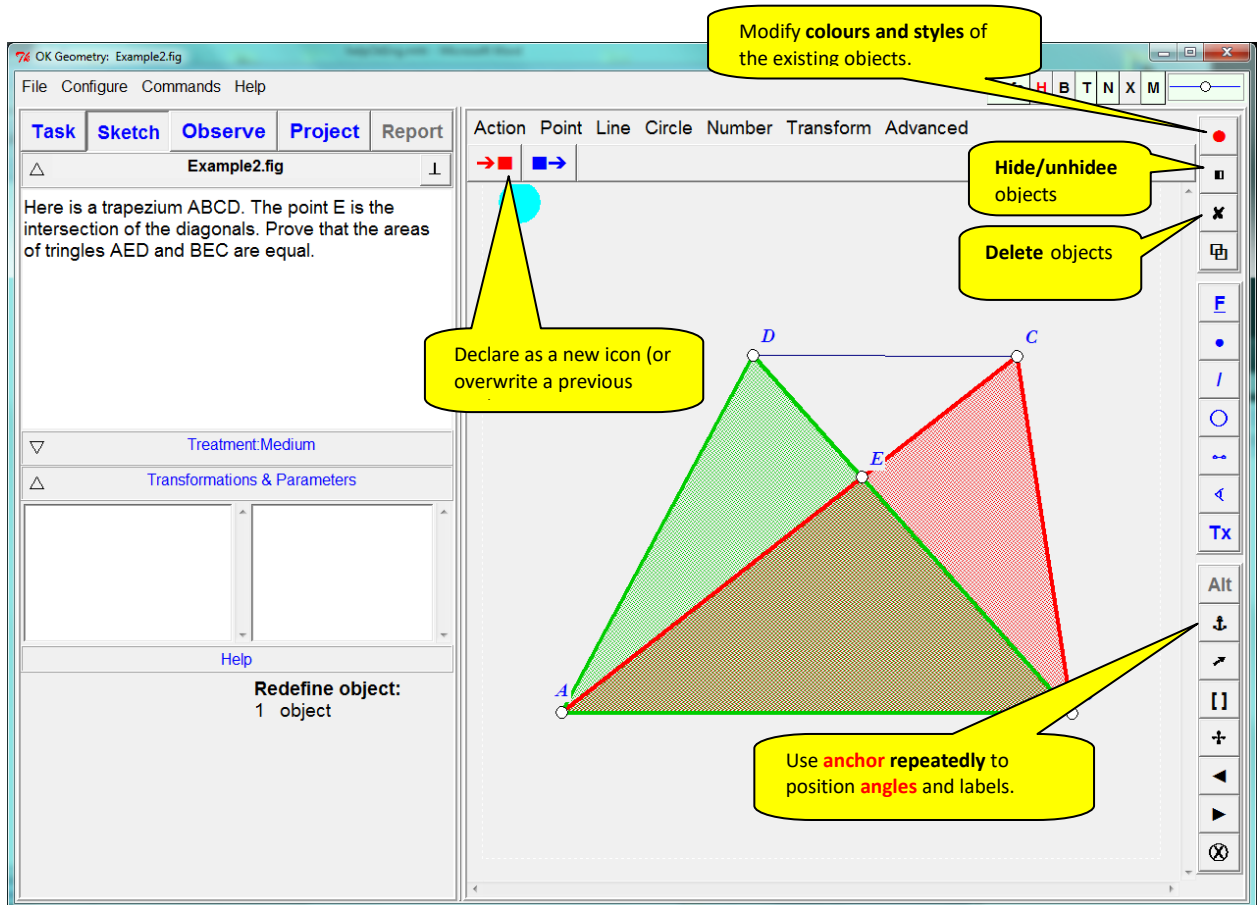
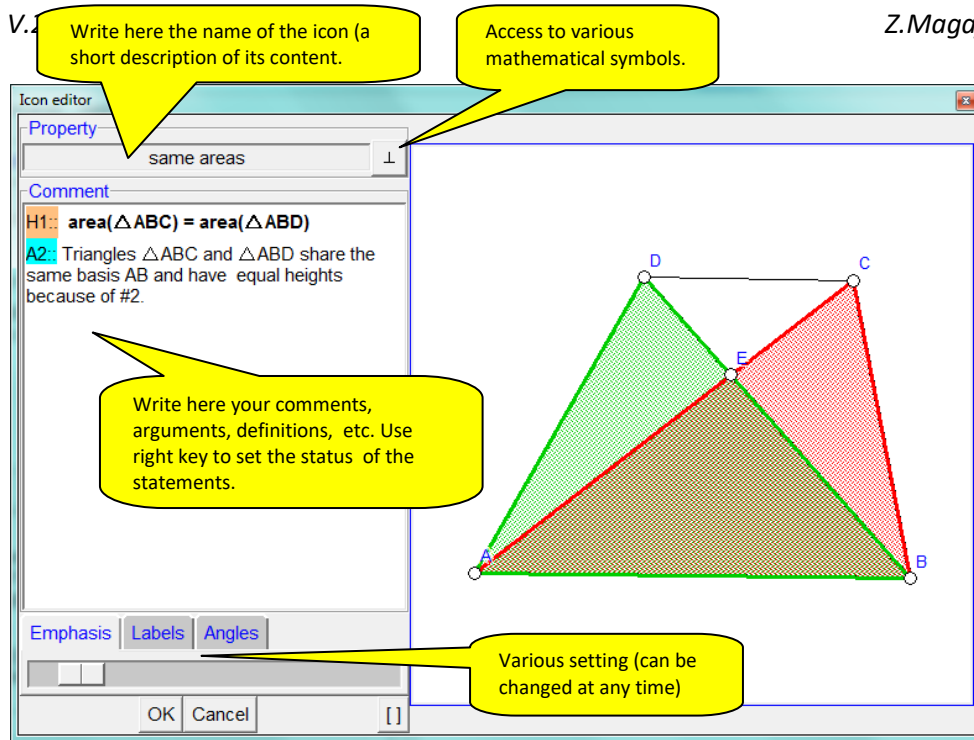
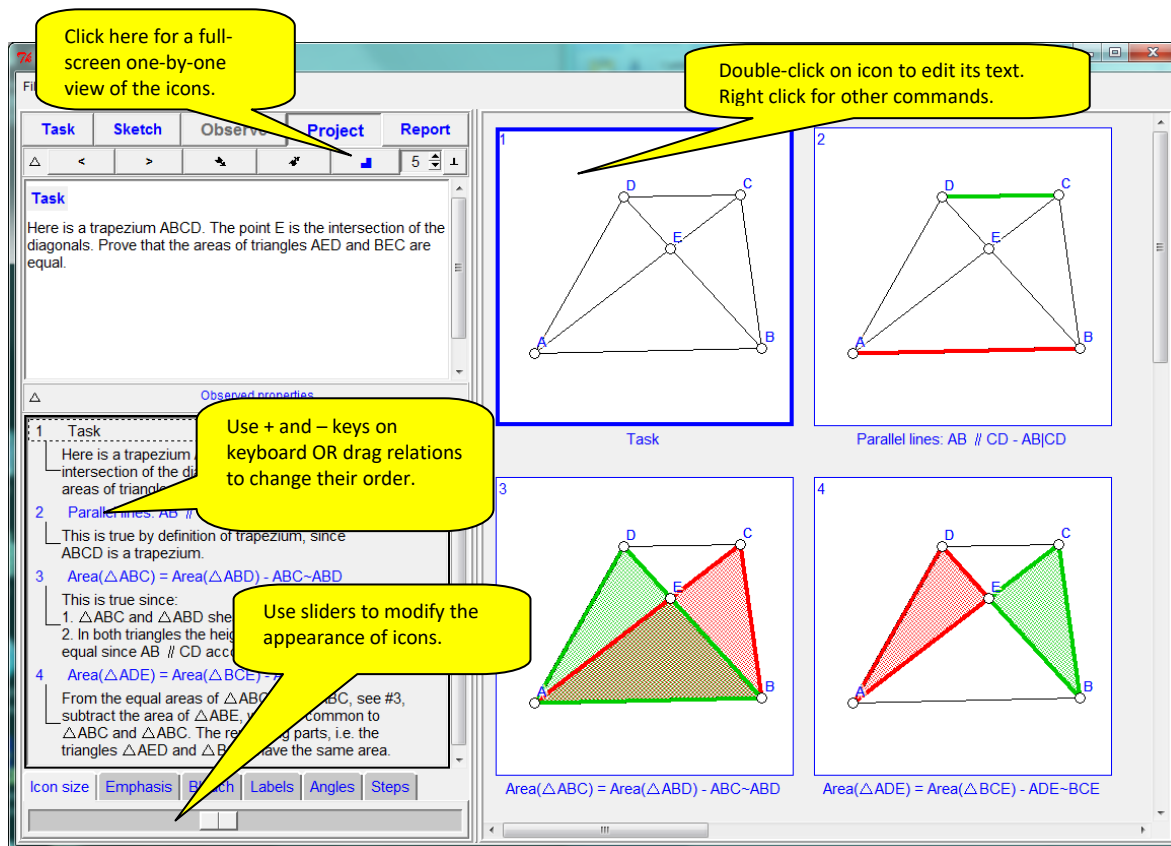
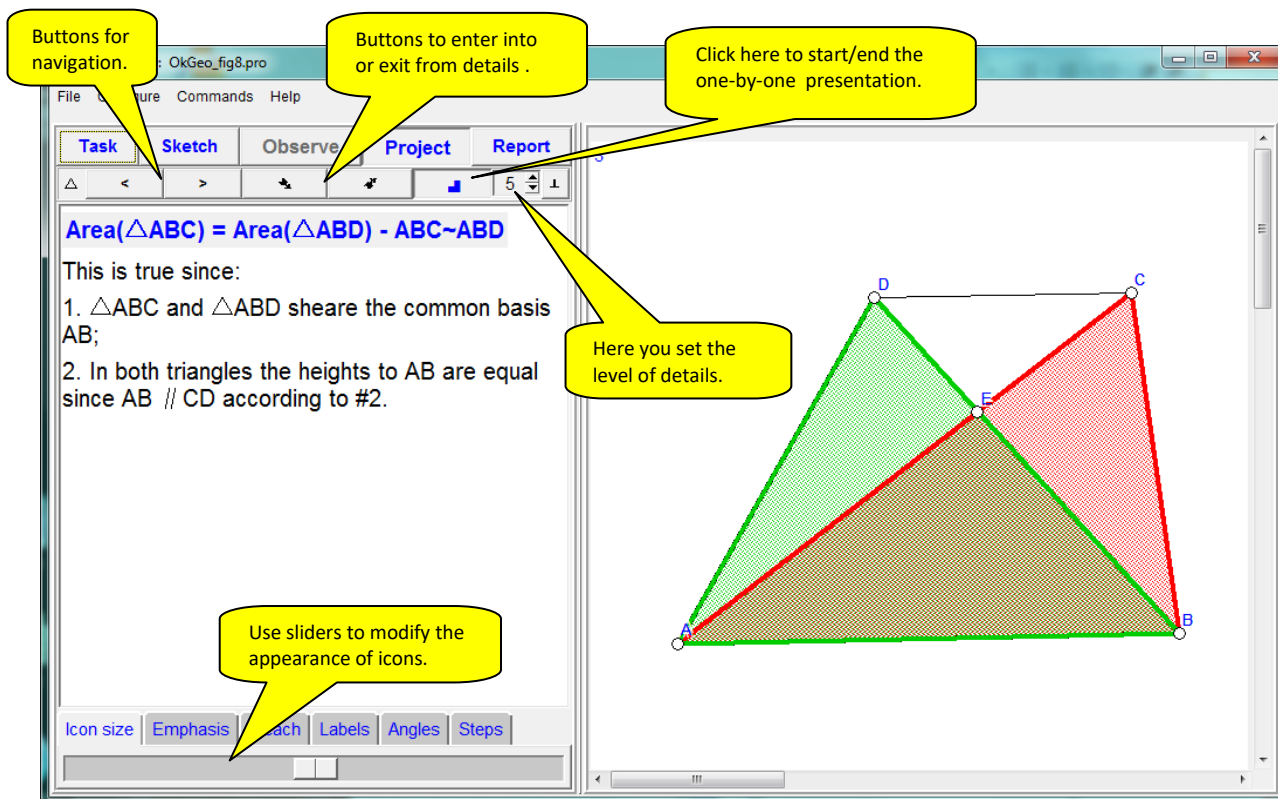

Figure 23
Figure 24
Figure 25
Figure 26
Declare as icons the relations that you think are relevant for further consideration. For example: triangles AED and BEC have the same area, and the triangles ABC and ABD also have the same areas as well. This is clearly related to the fact that in a trapezium the bases AB and CD are parallel. To add the relation to the current construction click on the red '+' icon above the visualisation pane (Figure 21). Usually the obtained construction requires some simple modifications (see Figure 23):
Fill in the form that appears (Figure 24) (you can also write and edit comments later). Note that a paragraph in the comment can be declared as follows: definition/description (D), claim/hypothesis (H), argumentation (A), comment, and formula. Figure 24 shows a commented form for the relation that triangles ABD and ABC have the same area. Click OK to turn the relation into an icon.
Once you have selected the relevant instances of properties⁵, you can proceed to organise them, to documenting them, or even to build up a proof of a claim. In the main task bar, click the **Project** button (Figure 25). On the left pane you will see the previously selected instances of properties, while on the right pane you will see icons representing the relations. You can move around the icons and change the sequential number of icons. If you want to change the comment to of an icon, simply double click it.
The icons of a project⁶ can be displayed all at once (Figure 25) or individually (Figure 26). To present the icons one-individually, click the  button. Then use the presentation buttons to move between icons. Note: the proof can be organised in a linear fashion or in a tree-like fashion. In the latter case it is possible to specify the level of details of the proof and navigate through the steps of the proof.
Even very simple configurations can have interesting and even unexpected properties. You can use OK Geometry to keep track the configuration and of the found properties. For a given configuration, you can include the configuration itself as well as selected observed properties into a project. The process ‘is described in the previous example (Figure 23, Figure 24, Figure 25). Note, that the iconised properties often require some simple editing (see Section 4.3.1).